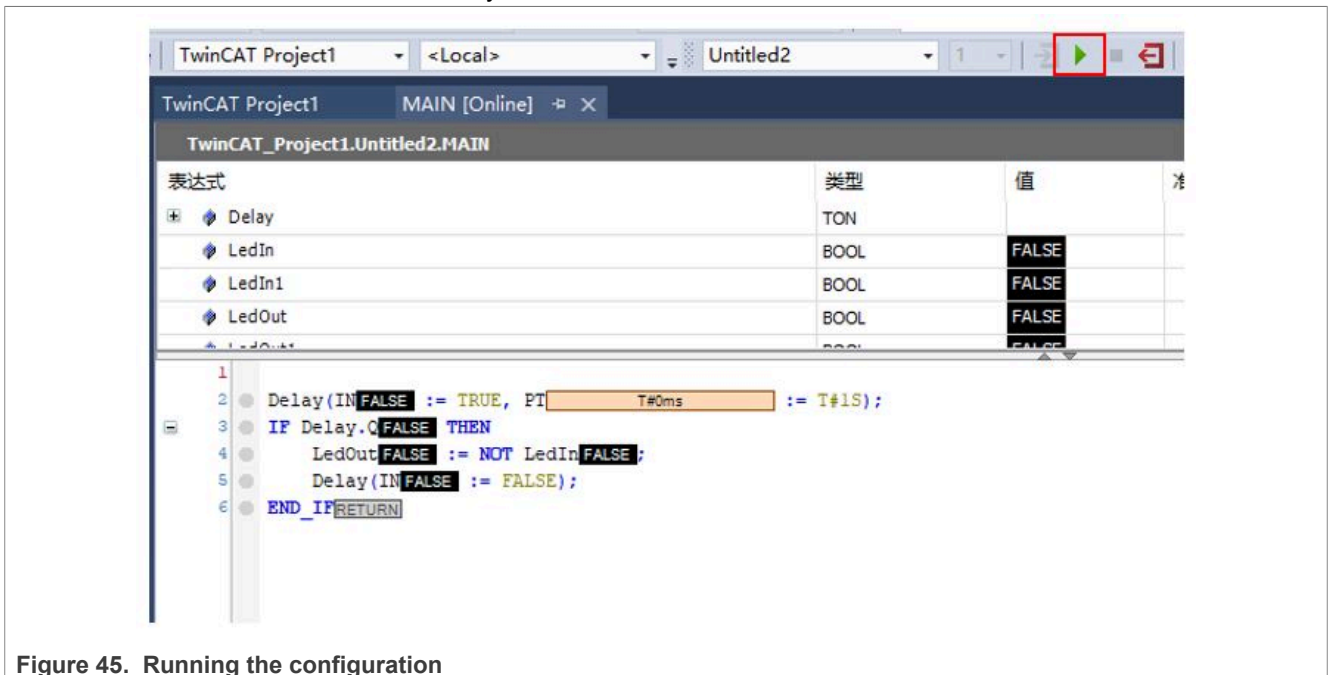

Figure 45. Running the configuration
7. Click **Run PLC** button as shown in Figure 45. Now, the PLC project runs and the user LED on MIMXRT1180-EVK board blinks every one second.